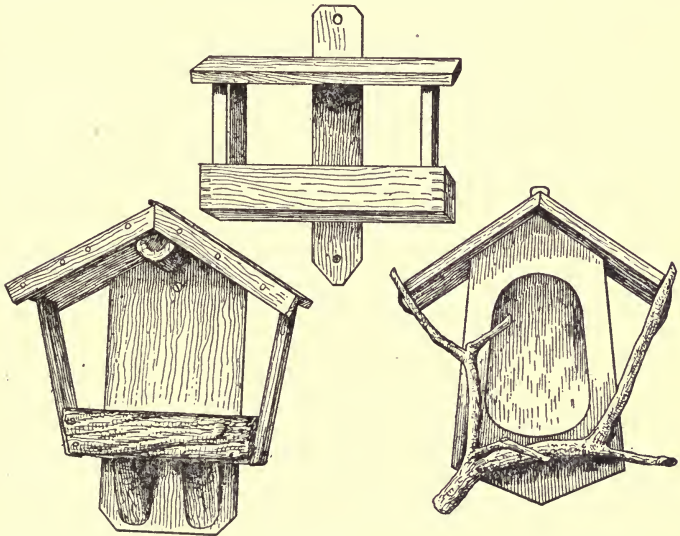

FIG. 87. — Open nesting boxes.
**Open houses.** Other birds which do not nest in cavities will sometimes build their nests in a box, open on three sides like a porch. (See figure 87.) These houses consist of a floor from 6 to 8 inches square with a roof held up by posts at the corners, or the back may be a solid board, leaving three sides open. Birds which have been known to occupy these houses are the robin, phœbe, song sparrow, and catbird. These houses should be put up in locations where these birds usually nest.